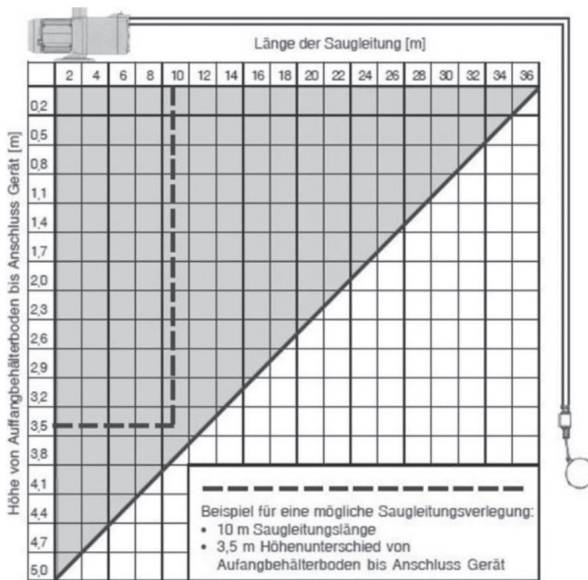

Fig. 8.4.1 Suction diagram
- Connect the suction line to the suction connection 1" AG of the Conel Flow Rain-Champion in a professional manner (*see Figure 8.4.1*): A return hindrance (check valve) **must be** installed on the suction line on the side of the construction